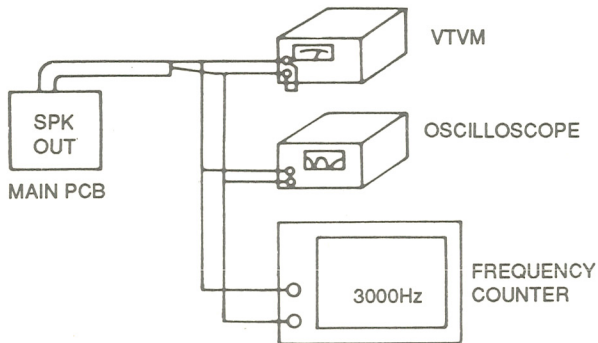
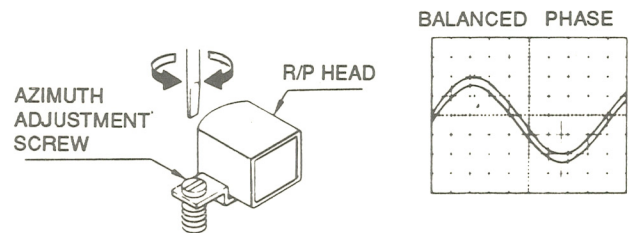
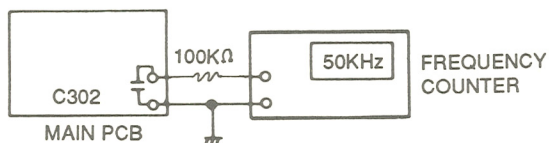

Fig. 7
Fig. 8
Fig. 9
(1) HEAD AZIMUTH ADJUSTMENT
- ① Connect the equipments as shown in the Fig. 7.
- ② Insert a test tape (8KHz : MTT-113CN) into deck.
- ③ Press PLAY (▶) and set VOLUME at approximately 50mW (4 Ω).
- ④ Adjust the azimuth adjustment screw for the maximum and balanced channel output (Fig. 8).
- ⑤ Secure the adjustment screw with glue after adjustment is complete.
(2) RECORDING BIAS ADJUSTMENT
- ① Connect C302 of Main PCB to the Frequency Counter. (Fig. 9)
- ② Press RECORD (●) and set FM-MODE switch to "MONO".
- ③ Adjust T301 so that the Frequency Counter reads 50KHz.
(3) TAPE SPEED ADJUSTMENT
- ② Insert a test tape (3KHz : MTT-111) into deck.